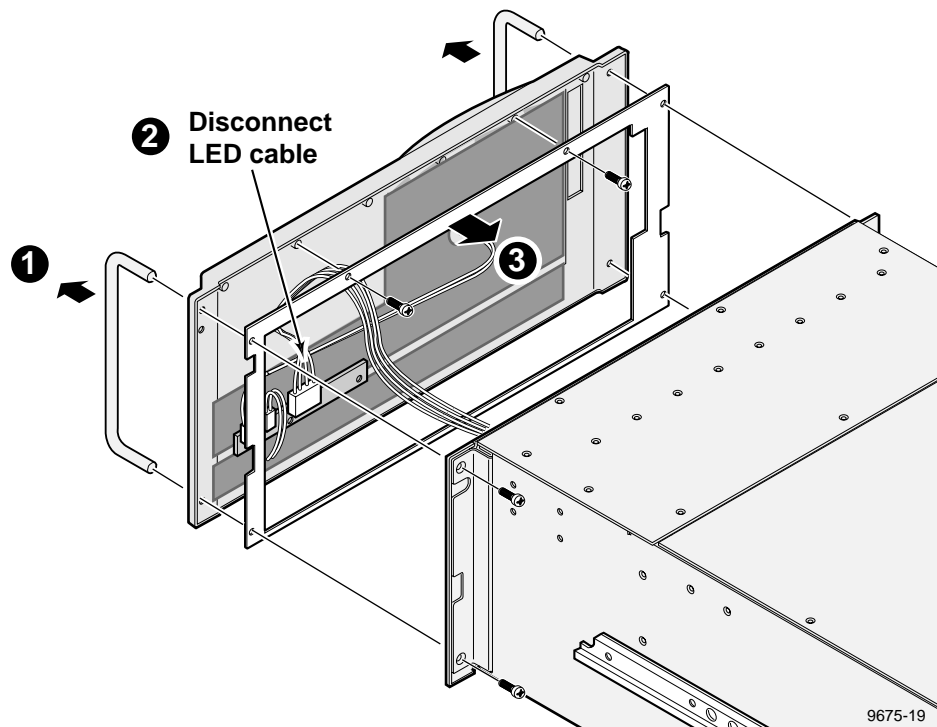

Figure 6-6. Front Panel, Handles, and Gasket Removal
3. Being careful to support the front panel, use the Torx tool with the T15 tip to remove the two handle and panel mounting screws on each side (1 in Figure 6-6).
5. Disconnect the LED cable connector (2 in Figure 6-6) which runs from the chassis to the front panel and place the front panel face down on a flat level surface.
6. If necessary, use the Torx tool with the T15 tip to remove the gasket (3 in Figure 6-6).
3. Being careful to support the front panel, position the front panel at the chassis and reconnect the LED cable connector to the board (Figure 6-6)